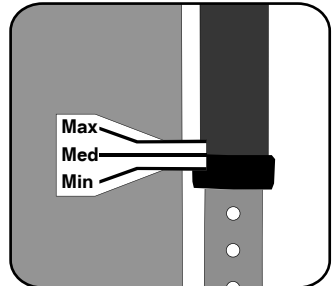

Figure 7: Move the calibration gauge so the medium mark lines up with the bottom of the mast.
d) Move the downhaul gauge at the bottom of the sail so that the medium mark of the gauge lines up with the bottom of your mast (figure 7).